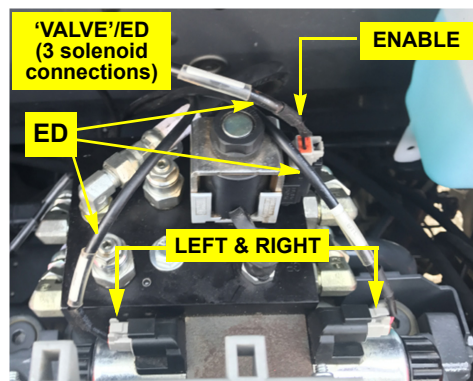

Figure 2b: Solenoid connections
- b. Connect valve cable **ED** to **EC**'s connector labeled 'VALVE'. Connect **ED**'s three 2-pin connectors (labeled 'LEFT', 'RIGHT' and 'ENABLE') to the enable valve and two solenoid valves on the hydraulic steering block (Figure 2b).